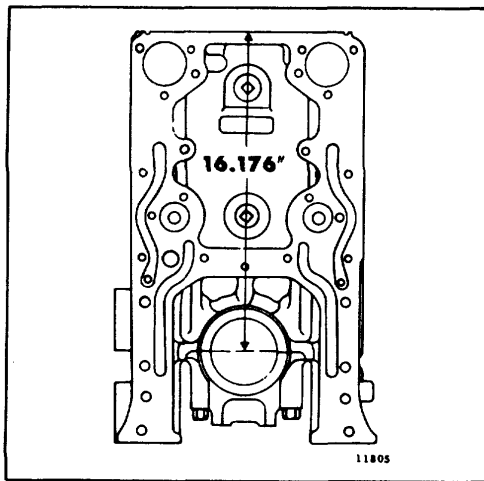

Fig. 17. Minimum Distance from Center Line of Crankshaft to Top of Cylinder Block
- b. If it is necessary to machine the top surface of the block to correct for the above conditions, do not remove more than .008 " of metal. Stamp the amount of stock removed on the face of the block. The distance from the centerline of the crankshaft to the top of the block must not be less than 16.176 " (Fig. 17).